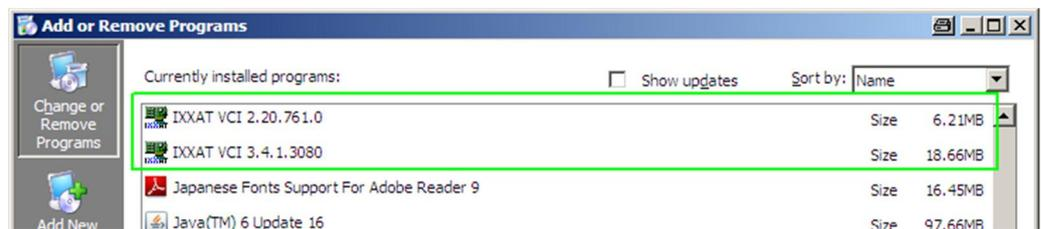

Fig. 18
- Following records should appear (see Fig. 18).